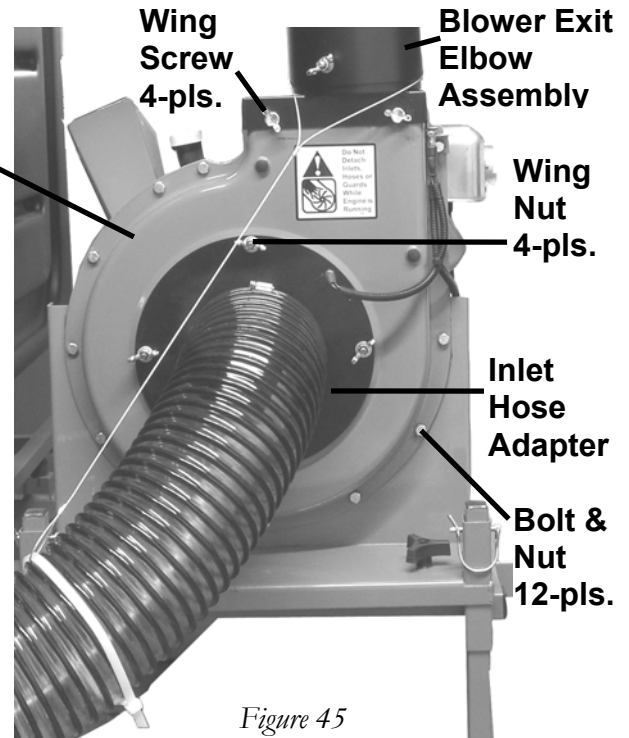

Figure 45
2. Remove the Wing Nuts and Wing Screws to disconnect the Inlet Hose Adapter and Blower Exit Elbow Assembly from the Chipper/Blower unit (Figure 45).
3. Using two (2) 1/2" wrenches or sockets, remove the 12 Bolts & Nuts retaining the Blower Cover Plate (Figure 45) and remove the plate from the blower housing. The Chipper Impeller is now exposed.